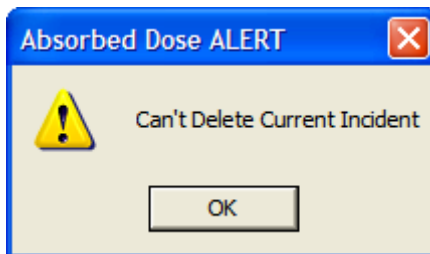

Figure 9-10
3. If the selected incident is the currently active incident, it cannot be deleted without first setting another incident as the current incident. Figure 9-10 will appear.